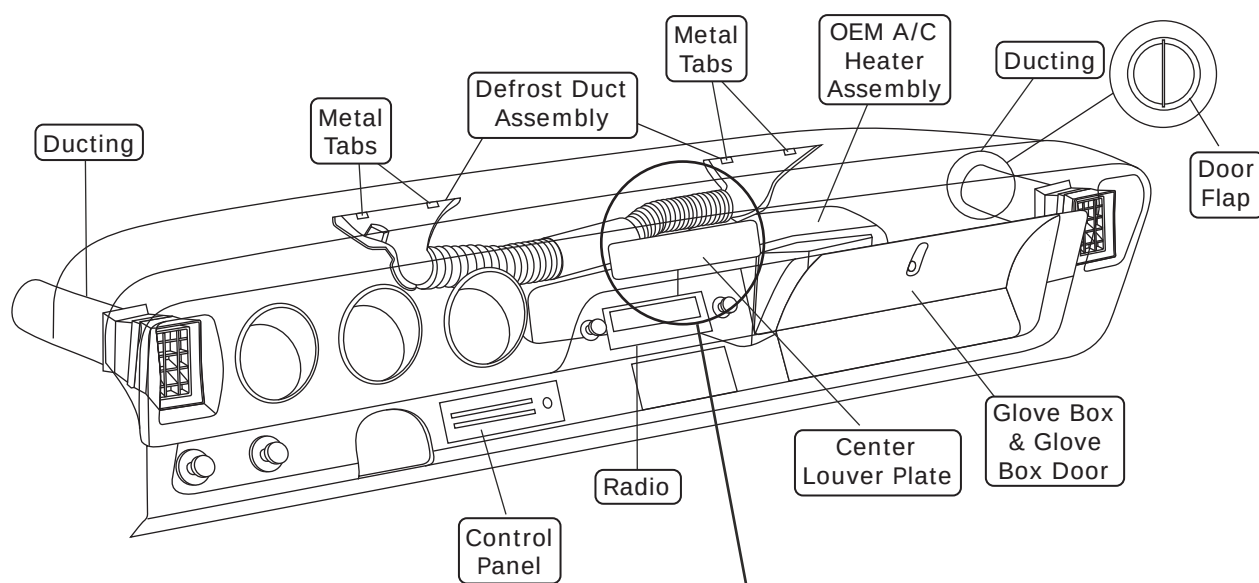

Figure 1
5. Remove the OEM defrost duct assembly by straightening (4) metal tabs (See Figure 1, below).
6. Remove the OEM A/C heater assembly (discard) (See Figure 1, below).
1. Remove kick panel grille (discard). Remove the kick panel by removing (5) OEM screws from the fresh air door assembly. Disconnect and discard pull cable assemblies from the kick panel (See Figure 1, below).